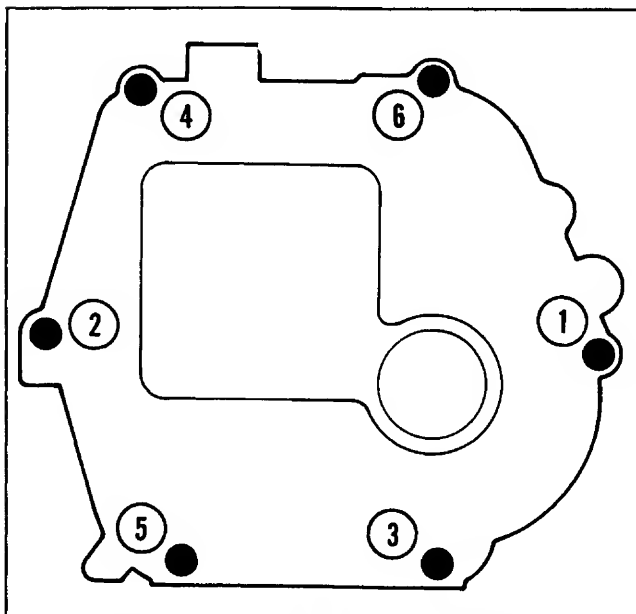

Figure 11-13. Closure Plate Fastener Torque Pattern.
5. Torque the fasteners, in several increments in the sequence shown in Figure 11-13, to 22.6 N•m (200 in. lb.).